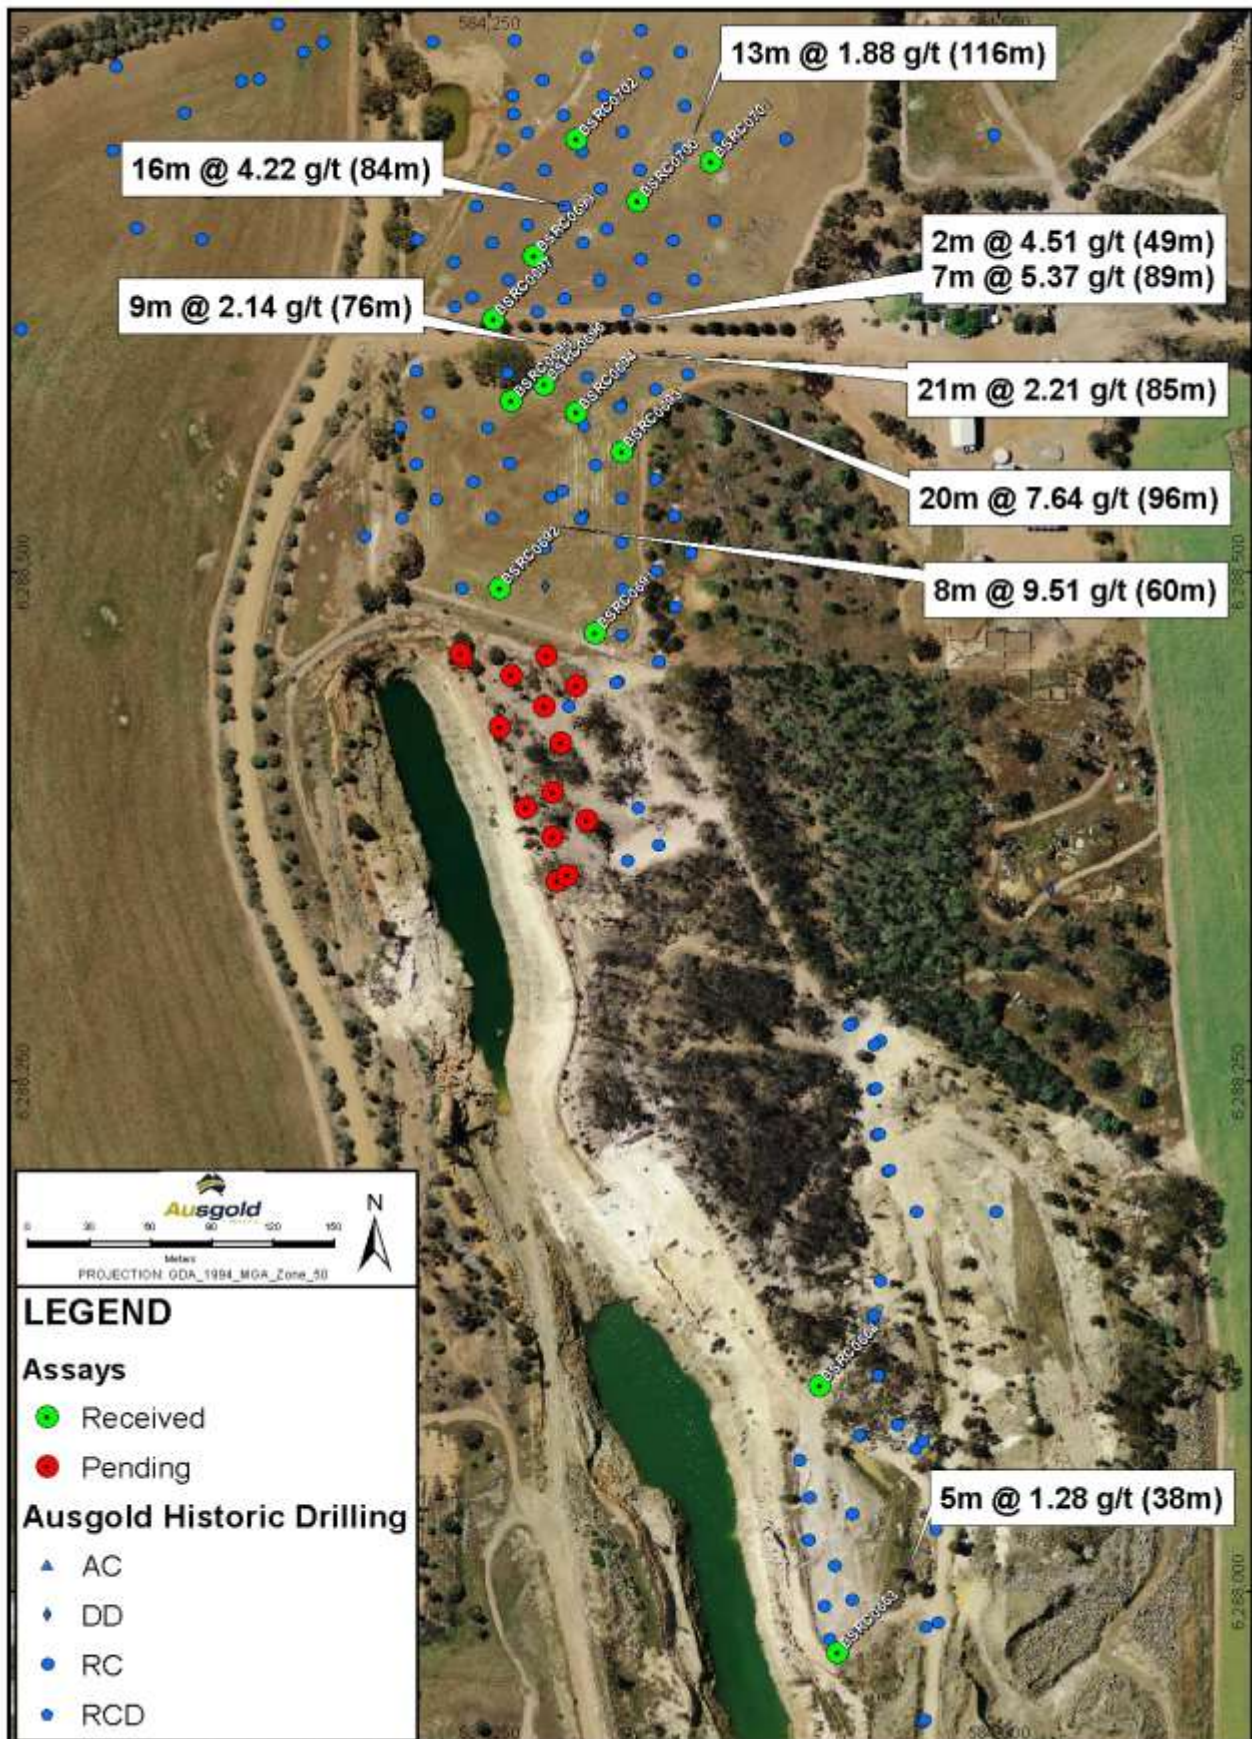

FIGURE 1. Aerial photograph at Jinkas showing location of completed RC drilling and results pending.
- Drilling at Jinkas has confirmed a substantial footprint of mineralisation over a 700m strike length (**Figure 1**). Mineralisation remains open down plunge to the north and down dip to the south; with scope to increase the grade and size of the current ~0.9Moz gold JORC resource at the Katanning gold project (“KGP”).
Ausgold Limited (ASX: AUC) (“**Ausgold**” or “the **Company**”) is pleased to announce the completion of a Resource Development (RC) drilling program at its 100% owned KGP, south-east of Perth, WA. Ausgold advises initial assay results have been received from drilling, with further results to be updated when assays become available. A full list of results is outlined in **Table 1** with drill hole locations highlighted in **Figures 1 and 2**.
A total of 46 RC holes were completed at the KGP (2,500m at Jinkas 1,500m at Dingo). Results received to date are from a total of 23 RC drill holes (13 at Jinkas and 10 at Dingo). Drilling at Jinkas has confirmed a substantial footprint of mineralisation with a 700m strike length of mineralisation, comprising a 400m strike length of higher grade mineralisation down plunge of the Jinkas North open pit, and a 300m strike length of sub outcropping moderate grade mineralisation along the east wall of the Jinkas South open pit (**Figure 1**).